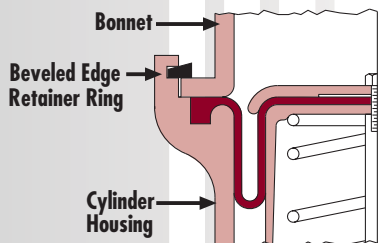

Fig. 27: Beveled Edge Retainer Plate
**Beveled Edge Retainer Plate (fig. 27)** – By the use of a beveled edge retainer ring, flange bolts can be eliminated. A groove is provided in the extension of the cylinder housing flange and during assembly the beveled edge ring is snapped into the groove which, in turn, loads the bonnet assembly onto the mating bead. Generally, the clamping forces produced by a design of this type are fairly low, and therefore, these applications should be restricted for use with low pressure.